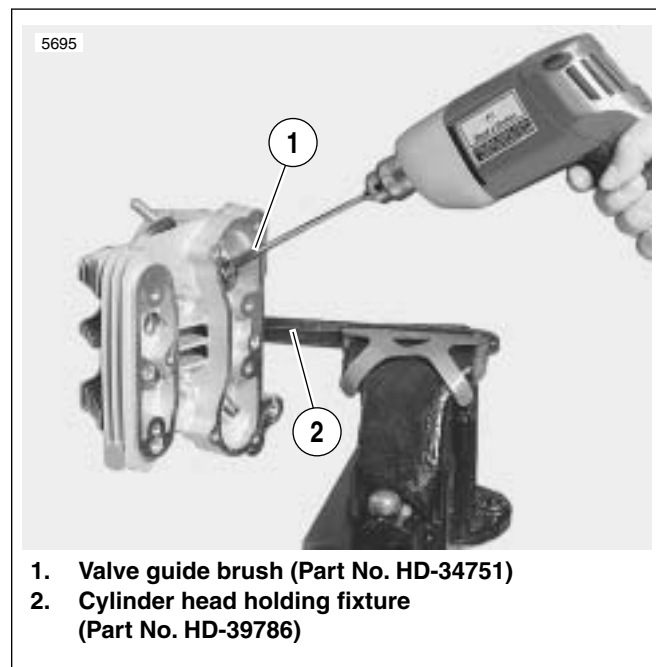

Figure 3-72. Cleaning Valve Guides
7. See Figure 3-72. Thoroughly clean valve guide bores using VALVE GUIDE BRUSH (Part No. HD-34751) and hot soapy water.